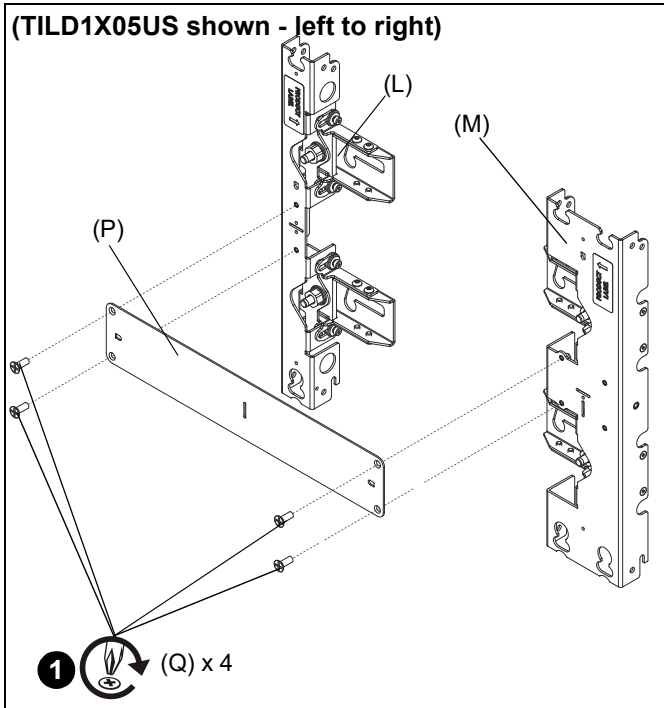
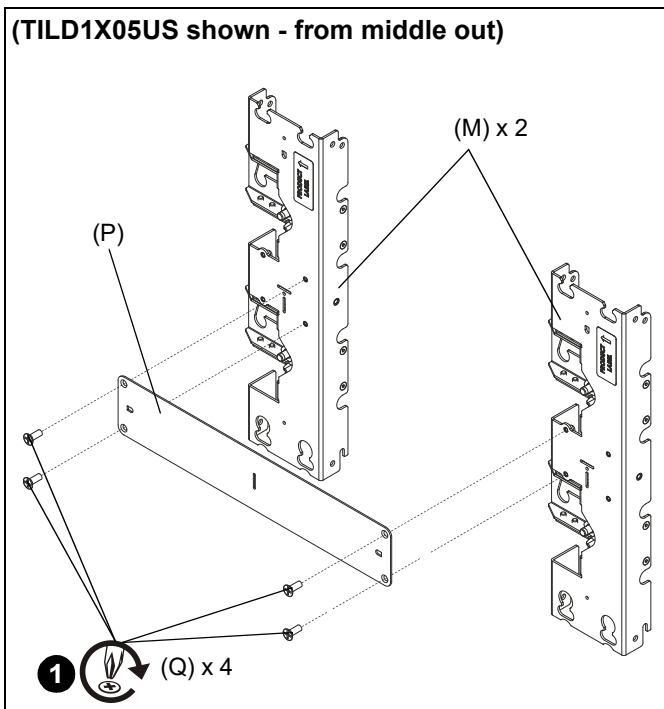

Figure 2
Figure 3
1. Use four 10-24 x 1/2" flathead Phillips screws (Q) to secure spacer plates (P) to mounting uprights (L and M or M and M). (See Figure 2) or (See Figure 3)